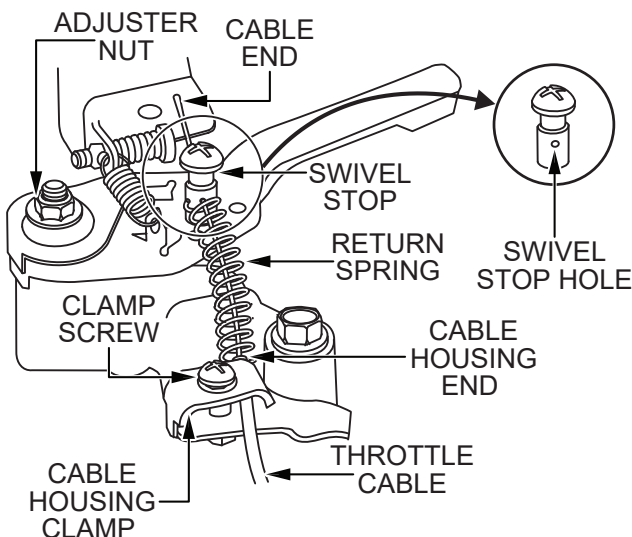

Figure 9. Throttle Cable Installation
4. Loosen the cable housing clamp screw and the swivel stop screw (Figure 9).
5. Place the primary throttle return spring between the cable housing clamp and the swivel stop screw (Figure 9).
6. Feed the cable assembly through the cable housing clamp, return spring, and swivel stop hole, until the cable housing extends under the housing clamp to its far edge (Figure 9).